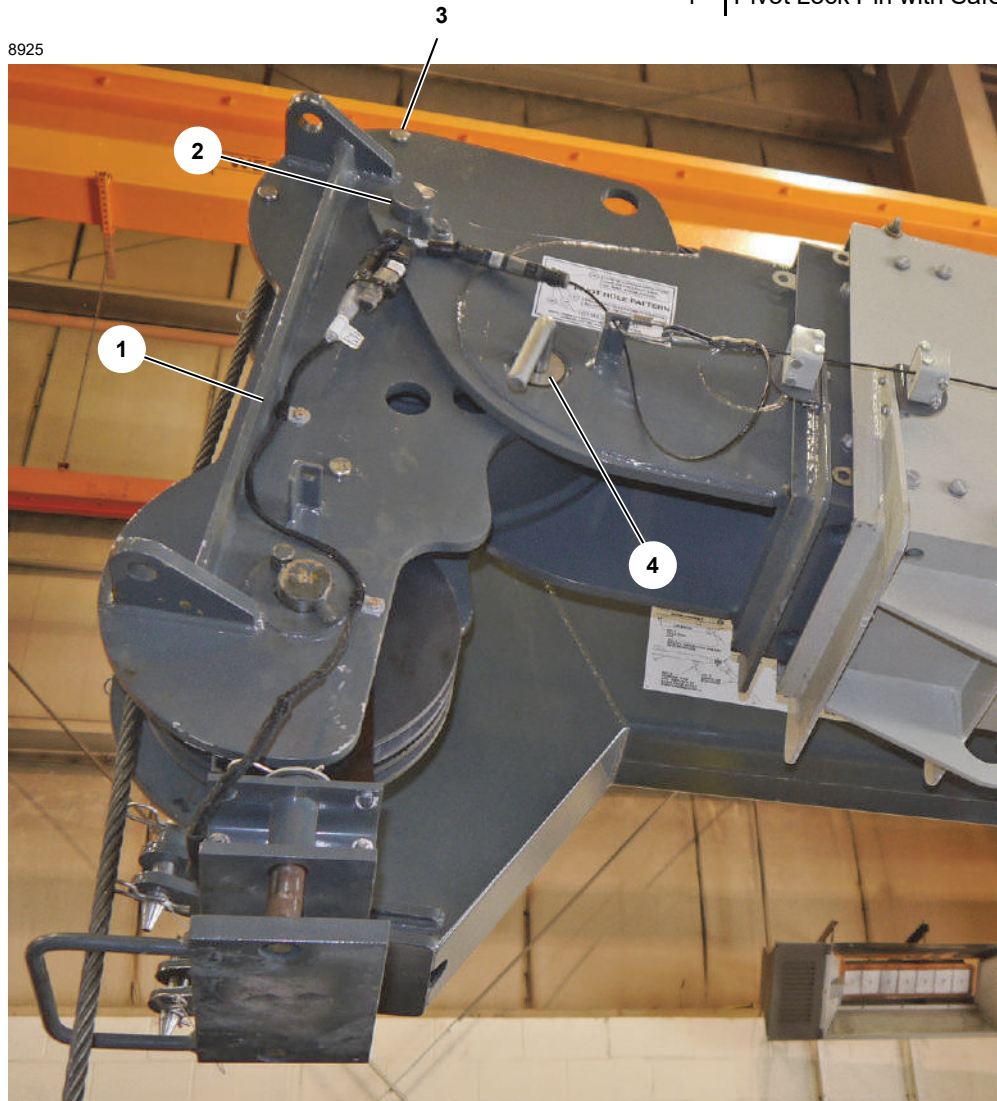

FIGURE 5-5
2. Pin the boom head in the 0° position. See Figure 5-5 and Changing the Boom Head Position (without Boom Extension) on page 5-8.
2. Pin the boom head in the 0° position (see Figure 5-5).
5. Connect the electric cable (5, View B) to the plug (6) on the boom head.
The pivoting boom head can be positioned at the angles given in View A, Figure 5-5 and operated within the specified limitations.
Refer to Figure 5-5, View B for the following procedure.